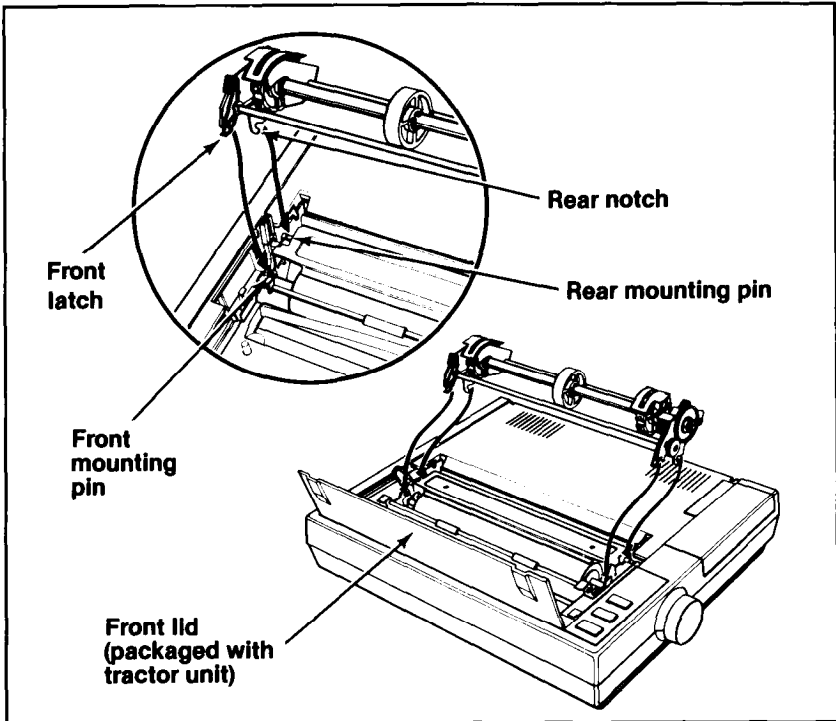

Figure 3-3. Installing the tractor unit
1. Remove the original dust cover that was included with your LQ. Replace it with the front lid packaged with the tractor unit, and leave it tilted up, as shown in Figure 3-3.
2. Hold the tractor with the gears to the right, and fit the rear notches on the tractor unit over the rear mounting pins on the printer, as shown in Figure 3-3.